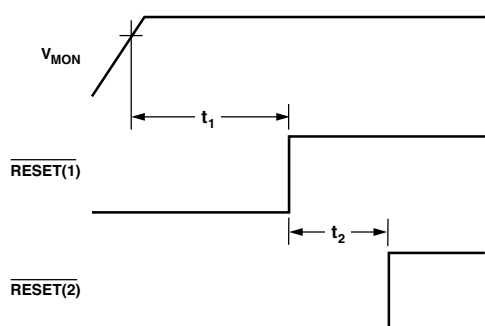

Figure 7. Power-On  $\overline{RESET}$  Timing
| Reset Timeout Delay (t 1 )    |     | 50   | 75   | ms    | Figure 7, 8                                            |
| RESET(2) Timeout Delay (t 2 ) |     | 10   | 15   | ms    | Figure 7, 8                                            |